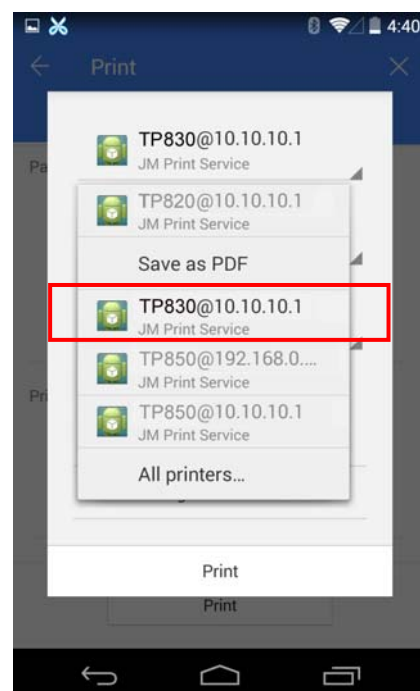

Figure 30
4.6 Select “TP830@10.10.10.1”, as shown in Figure 30.